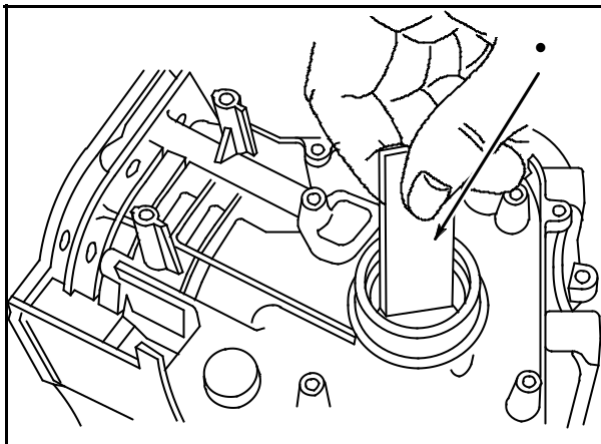

Fig. 5
Check magneto bearing for damage. Check for wear at several locations using plug gauge **#19219 (1)** or appropriate measuring tools, **Fig. 5**. If plug gauge is not available see reject dimension in Section 13.